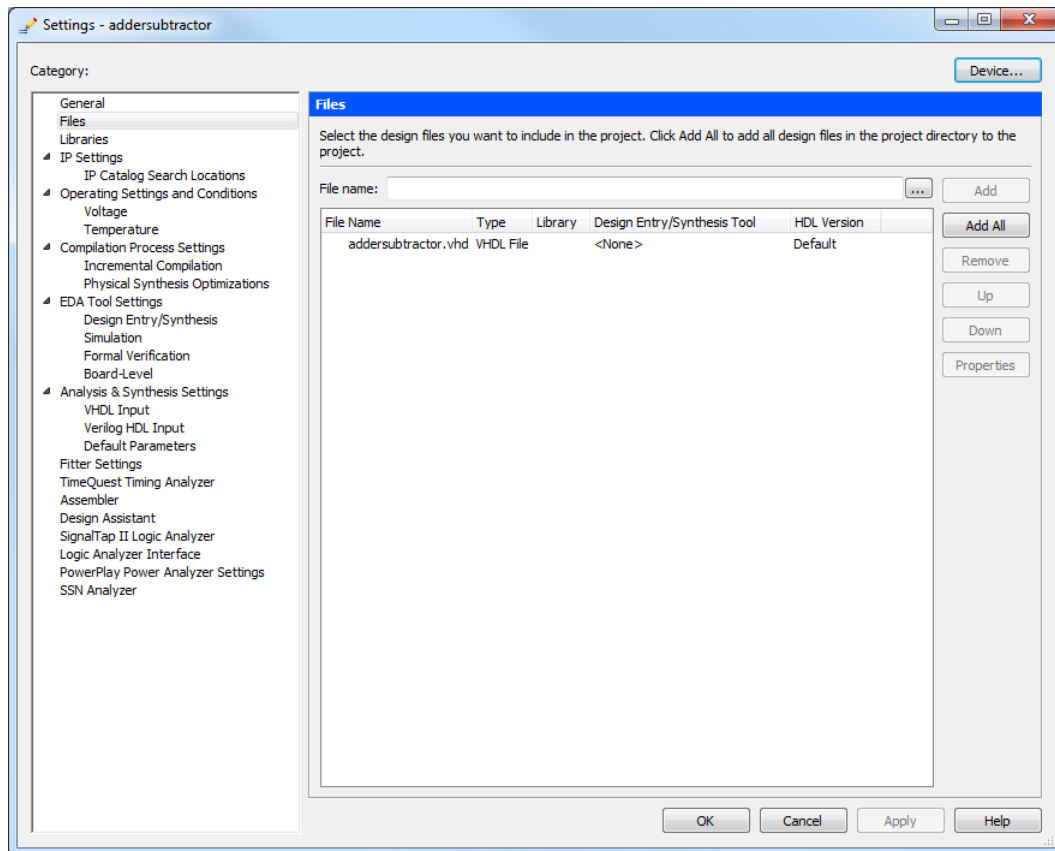
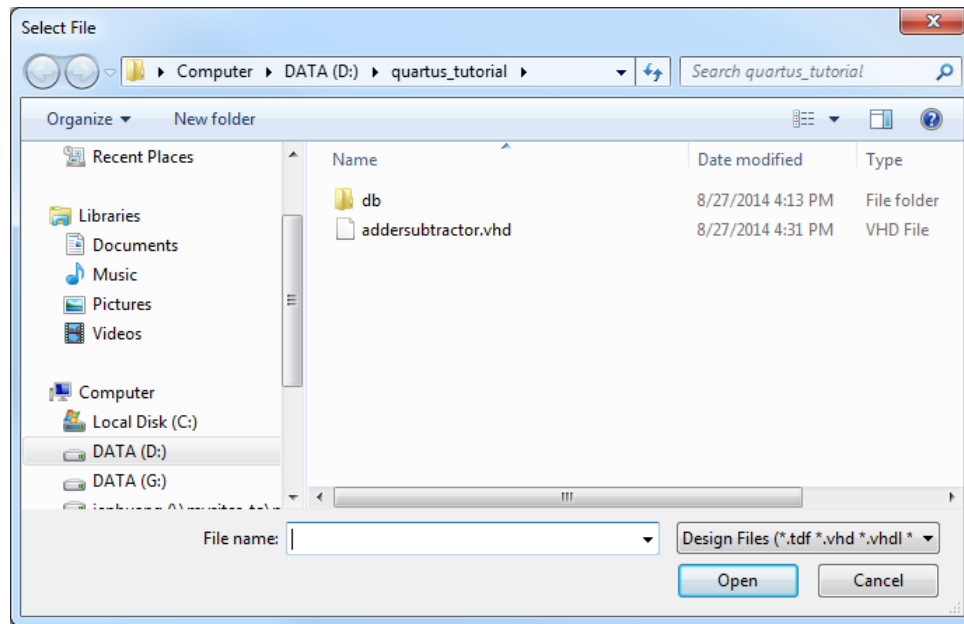

Figure 18: Settings window.
Figure 19: Select the file.
As we indicated when discussing Figure 7, you can tell the Quartus® II software which design files it should use as part of the current project. To see the list of files already included in the *addersubtractor* project, select Assignments > Settings... > Files, which leads to a window similar to the window in Figure 18. An alternative way of making this selection is to go to Project > Add/Remove Files in Project....
If you used the Quartus® II Text Editor to create the file and checked the box labeled Add file to current project, as described in Section 3.1, then the *addersubtractor.vhd* file is already a part of the project and will be listed in the window in Figure 18. Otherwise, the file must be added to the project.
2. To add this file to the project, click on the  button beside the File name field in Figure 18 to get the pop-up window in Figure 19.
3. Select the *addersubtractor.vhd* file and click **Open**. The selected file is now indicated in the File name field of Figure 18. Click **Add** and then **OK** to include the *addersubtractor.vhd* file in the project.